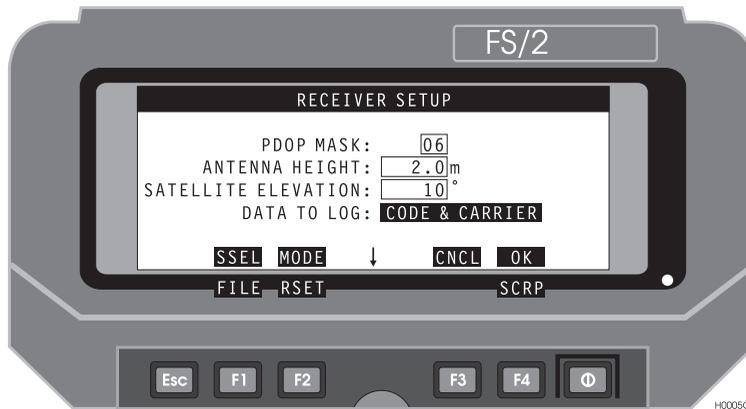

Figure B.2: Receiver Setup Screen
7. Press **F4 (RETN)** to return to the Receiver Setup screen (Figure B.2).